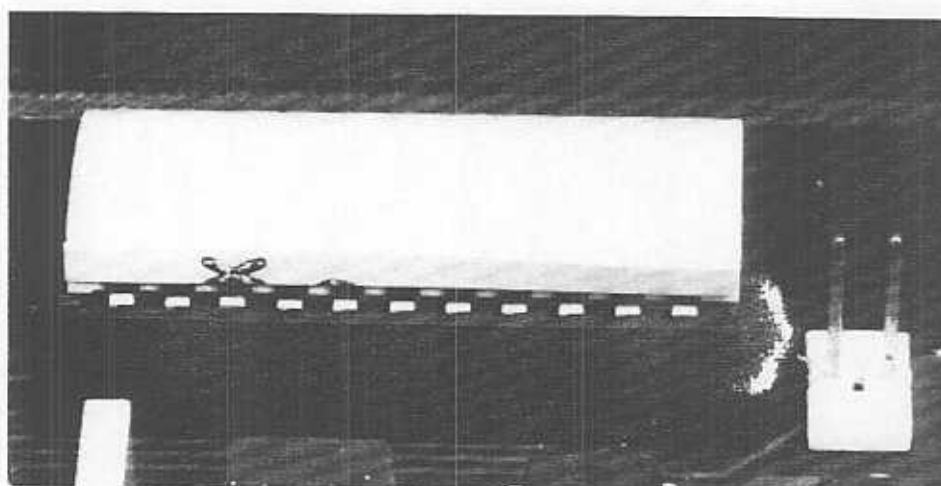
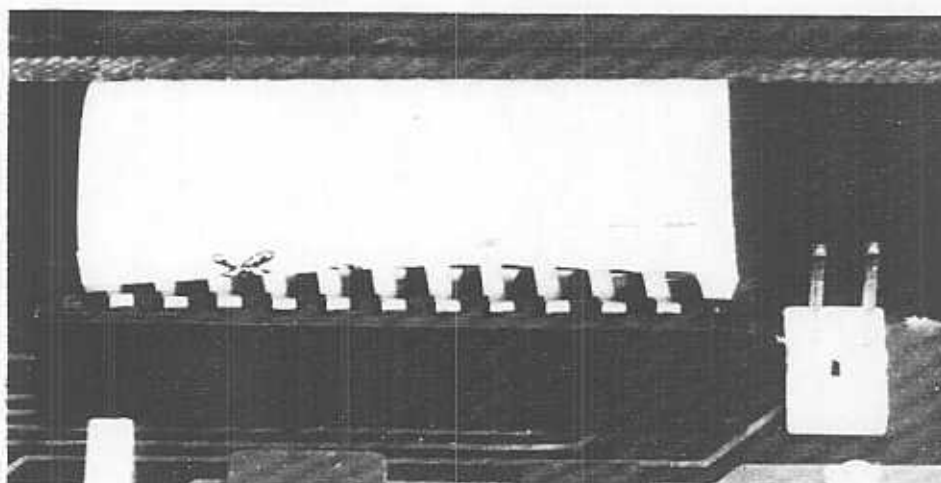
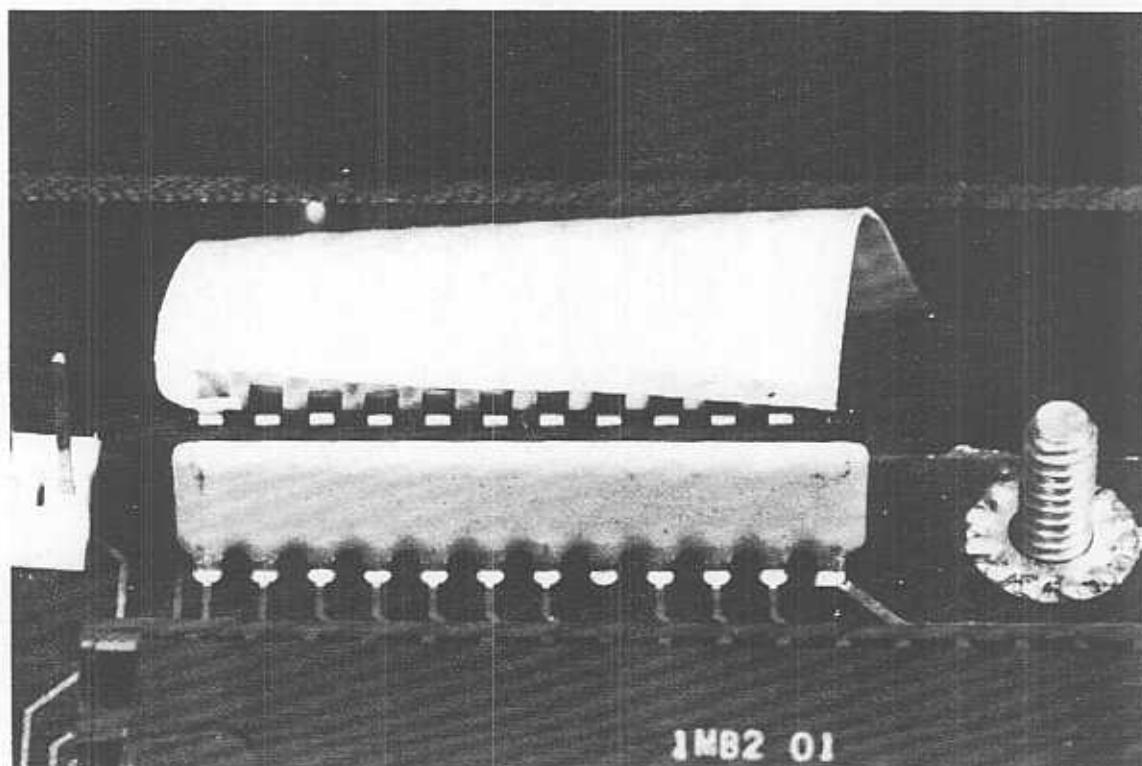

Figure 3-2. Cable Connected Properly
Figure 3-3. Cable Misaligned
Figure 3-4. Cable Connected With Edge Folded Over
- c. Make sure that the cable contacts are properly aligned with the connector contacts and that neither edge of the cable is folded over. Figure 3-2 shows a cable connected properly. Figure 3-3 shows a cable misaligned, and figure 3-4 shows a cable connected with an edge folded over.